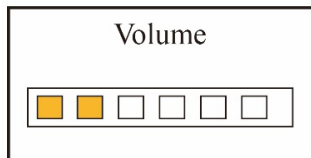

Figure 4.10B Volume setup
- **Volume:** To set the sound volume (including alert sound, pulse beep sound and key click sound), 6 levels sound volume for optional, the factory default is level 3, as shown in figure 4.10B.